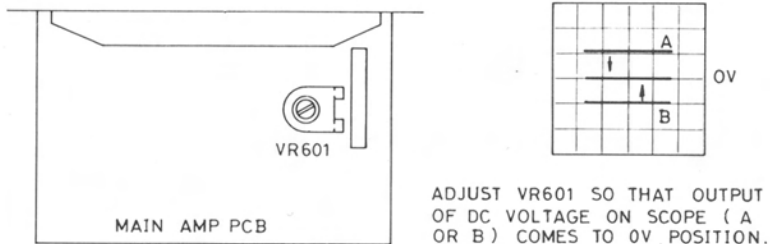

Fig. 1. DC Balance Adjustment (RA-1000, RB-1000)
2. Connect the oscilloscope to speaker terminals of amplifier. Set volume control of the amplifier to minimum position. Turn on the power. When DC output appears on the screen (the trace will shift upwards or downwards as shown in Fig. 1), adjust potentiometer VR601 on the main-amplifier PC board so that the DC output trace falls on zero position (the position set up in step 1).